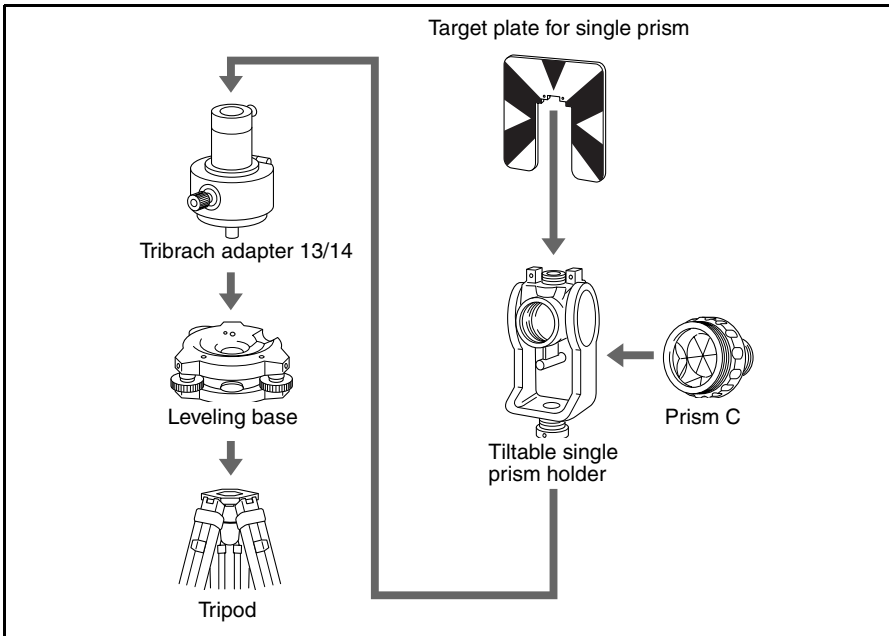

Figure 2.4 Assembling the prism reflector
1. Assemble the prism reflector as shown in Figure 2.4.